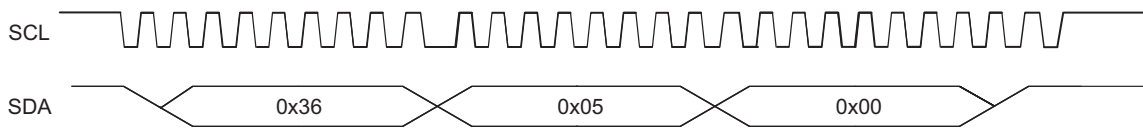

Figure 1-2. I²C Write Transaction Sequence
An example of a host issuing a write command to DLPC150 is shown in Figure 1-2. In this example, the host issues command 0x05 and writes one byte parameter 0x00 by transmitting a start condition (S), followed by the DLPC150 address with read/write bit cleared (0x36), then the command 0x05, and the value 0x00, then a stop condition (P).